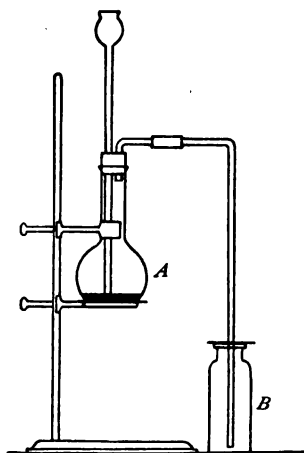

FIG. 33
**62. Preparation of chlorine.** (*All the following experiments must be performed in the hood, and great care taken not to inhale the gas.*) *a.* Place about 1 g. of manganese dioxide in a test tube, add 2 or 3 cc. of hydrochloric acid, and heat gently (R).
*c.* Repeat experiment *a*, replacing the hydrochloric acid with small amounts of common salt and sulfuric acid. The manganese dioxide and salt should first be mixed together and the sulfuric acid added to the mixture. Compare the reactions in *a* and *c* (R). Which of the two methods is the cheaper for preparing chlorine? Give reason for your answer.
*d. Usual laboratory method* (two students working together). Arrange an apparatus according to Fig. 33, using a 250-cc. flask. Thoroughly clean and dry five wide-mouthed bottles (250-cc.) for collecting the gas. Place in the flask from 20 to 25 g. of manganese dioxide. Insert the cork and pour 150 cc. of hydrochloric acid through the funnel tube. Shake the flask so as to thoroughly wet the
*e.* A part of the class should prepare chlorine as follows: Instead of the funnel tube (Fig. 33) use a dropping-funnel (an ordinary funnel connected with a straight glass tube by a piece of rubber tubing may be used, a screw clamp on the rubber connection taking the place of the stopcock, as shown in Fig. 17). Place about 20 g. of potassium permanganate crystals in the dry flask and slowly admit concentrated hydrochloric acid from the dropping-funnel, regulating the flow of the acid by the rate at which chlorine is evolved.